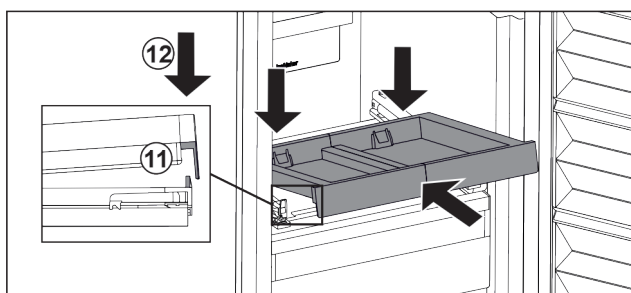

Fig. 84
- ▶ Slide in at an angle. Make sure that the stop is behind the lug on both sides. Fig. 84 (11)
- ▶ Lower the pull-out board at the front. Fig. 84 (12)